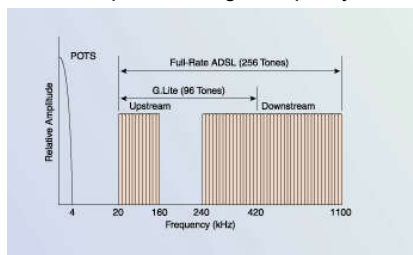

Figure 3. G.Lite ADSL uses less bandwidth than full-rate ADSL.
G.lite modems use only 96 tones for data rather than the 256 tones used by full-rate ADSL modems. (Fig. 3). The fewer tones limit the bandwidth to 420 kHz, a data rate of about 1 Mbps downstream and 512 kbps upstream. G.lite modems are designed to be compatible with the full-rate ATU-C systems at the telco side, but without letting the ATU-C assign data channels to tones greater than 96.⁷ G.Lite modems use less bandwidth, and hence less power, than full-rate ADSL modems. Because the bandwidth of G.Lite modems is about half that of full-rate ADSL, their total power usage drops by about 3 dB.⁸